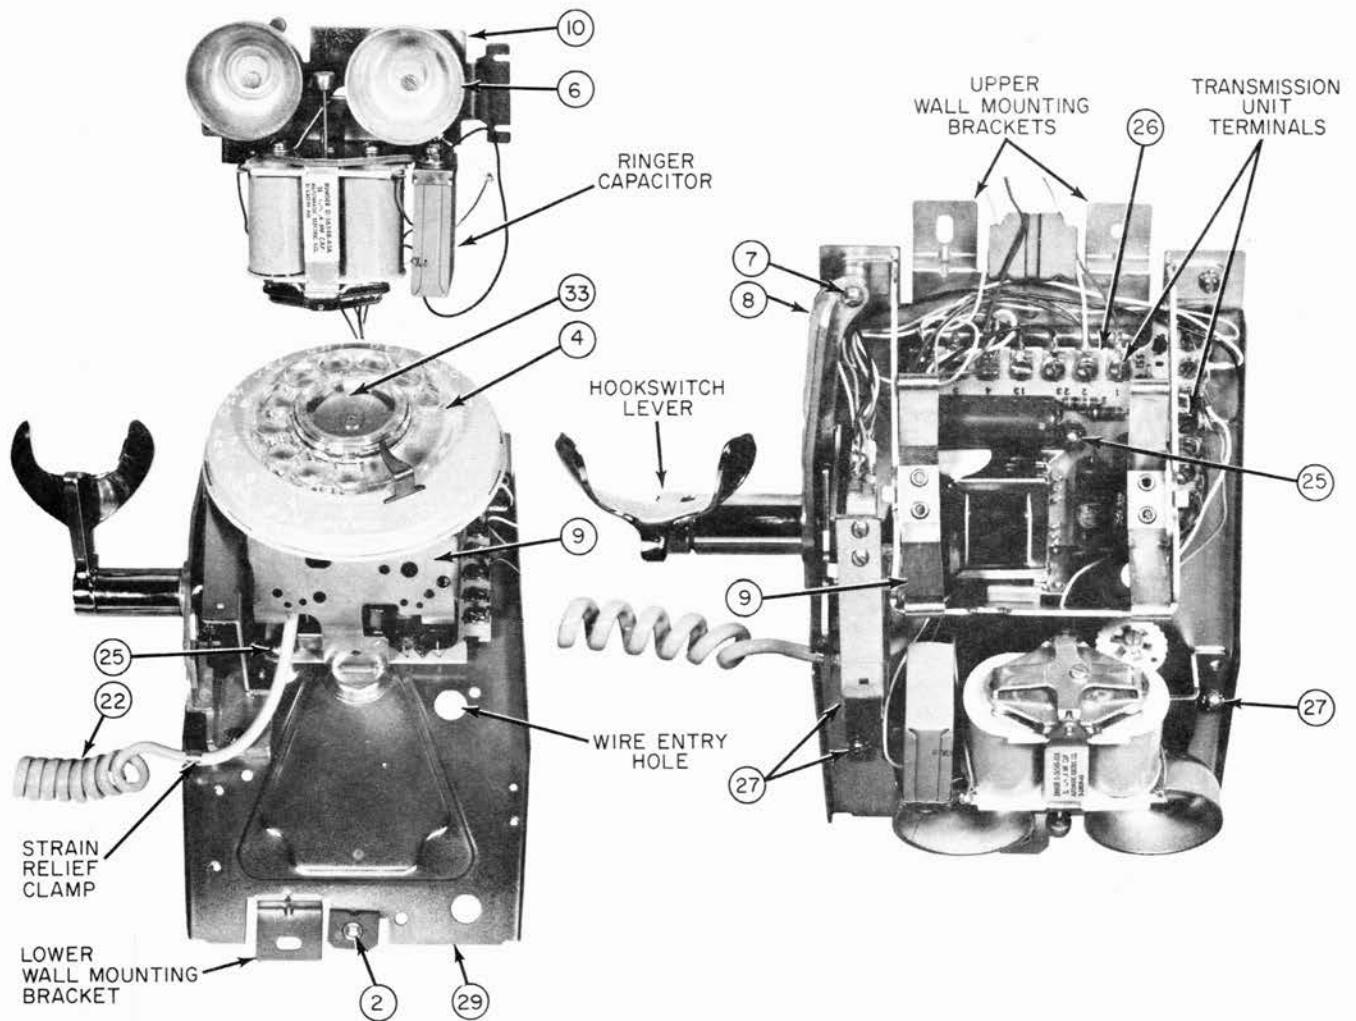
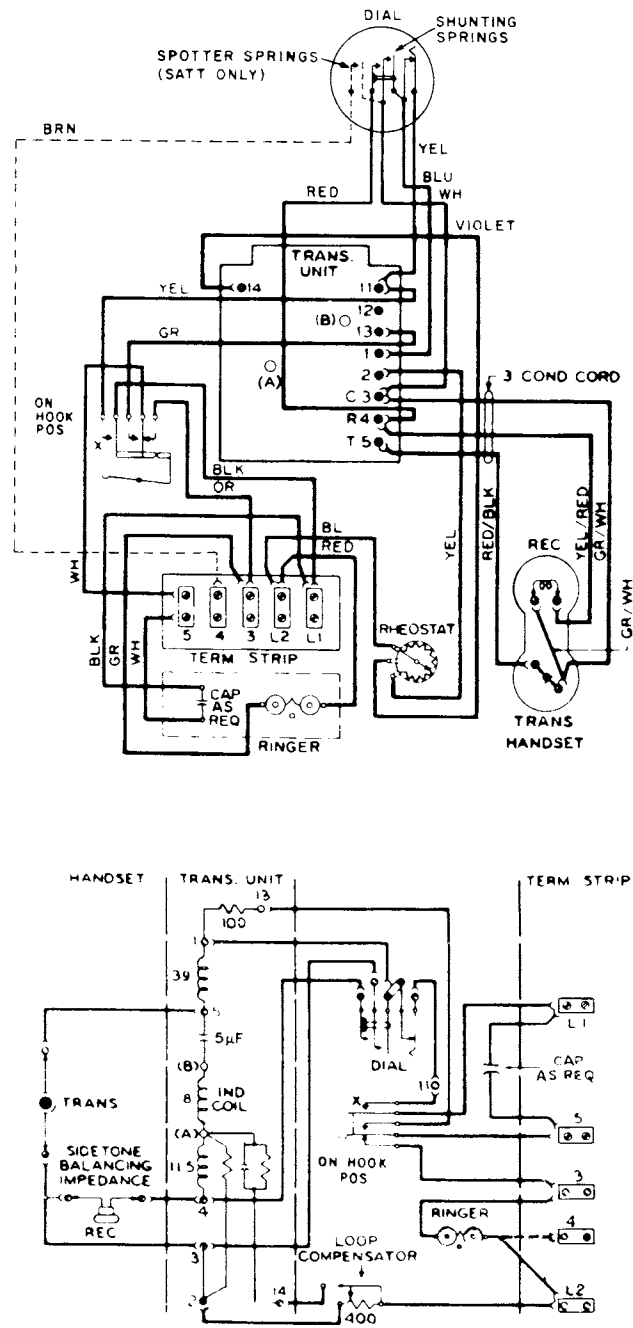

Figure 2. Type 90M Telephone Set Equipped with Printed Wiring Card Transmission Unit.
Figure 6. Manually Adjusted Type 90M Telephone Set
- (2) Swing the bottom of the housing forward sufficiently to clear the dial.
- (3) Lift the housing upward to separate it from the baseplate assembly (Item 29, Figure 2 or 3).
- (1) Remove the telephone set housing as instructed in Paragraph 3.02.
- (2) Disconnect the ringer and ringer capacitor leads from the transmission unit or terminal strip terminals.
- (3) Remove the three ringer mounting bracket securing screws (Item 27, Figure 2), and lift the ringer and mounting bracket combination out of the telephone set baseplate.
- (2) Disconnect the cradle switch leads at the transmission unit terminals.
- (3) Remove the cradle switch assembly securing screws (Item 7 and Figures 2 and 3).
- (4) Lift the cradle switch assembly upward to separate it from the baseplate.
- (1) Place the transmission unit into position in the telephone set baseplate (Figure 2).
- (2) Install the two transmission unit securing screws (Item 25).
- (1) Hook the handset cord strain relief clamp through the hole in the telephone set baseplate as shown in Figure 2.
- (2) Route the handset cord to the telephone set terminals as shown in Figure 2.
- (3) To connect the handset cord leads to the telephone set terminals of series NA, NB and NC, refer to Figures 6 through 9, respectively.
- (1) Place the cradle switch assembly on the baseplate just to the side of the transmission unit, Figure 2.
- (2) Position the feet over their respective mounting holes.
- (3) Install the two cradle switch assembly securing screws (Items 7 and 11).
- (4) To connect the cradle switch leads to the telephone set terminals of series NA, NB, and NC, refer to Figure 6 through 9, respectively.
- (1) Place the ringer on the telephone set baseplate in the position indicated in Figure 2.
- (2) Install the three ringer mounting bracket securing screws (Item 27).
- (3) To connect the ringer and capacitor leads to the transmission unit terminals of series NA, NB, and NC, refer to Tables 2 through 5 respectively.
- (1) Place the dial in position on the telephone set, with the bayonet lugs at the point of engagement with the mounting pins.
- (2) Press in on the dial and slide it downward to latch it in place.
- (3) To connect the dial assembly leads to the telephone set terminals of series NA, NB, and NC, refer to Figures 6 through 9, respectively.